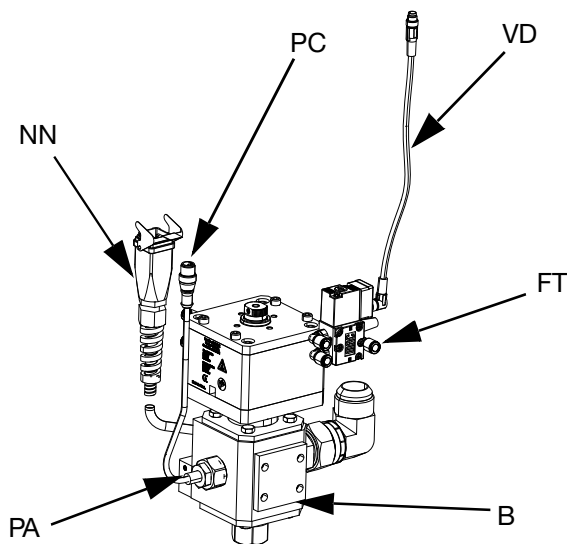

FIG. 25
9. Connect the Air Line (AR) (not supplied) to the air fitting (FT) on the dispense valve solenoid. See the Axial Dispense Valve Instructions-Parts manual. See FIG. 25.
- a. Connect the solenoid valve cable (VC) to the M8 4 pin end of the splitter cable attached to Port 4 on the Electric Driver (AB). See **Electric Driver Communication Connections** for Single Rams on page 16. See FIG. 25.
- b. Connect the 90 degree end of the included M8 4 pin cable (VD) to the dispense valve, and the straight end of the solenoid valve cable to (VC). See FIG. 25.
- a. Connect the dispense valve solenoid cable to the tandem dispense valve solenoid connector (YY) on tandem block (R).
- b. Connect the 90 degree end of the included M8 4 pin cable (15N040) to the dispense valve, and the straight end of the solenoid valve cable to (VC). See FIG. 25.
- c. Connect one male end of the M8 4 pin splitter (TT) on the tandem block (R) to the M8 4 pin end of the splitter cable attached to Port 4 on the Electric Driver (AB) for ram 1 and ram 2. See **Electric Driver Communication Connections** for **Tandem Rams** on page 17.